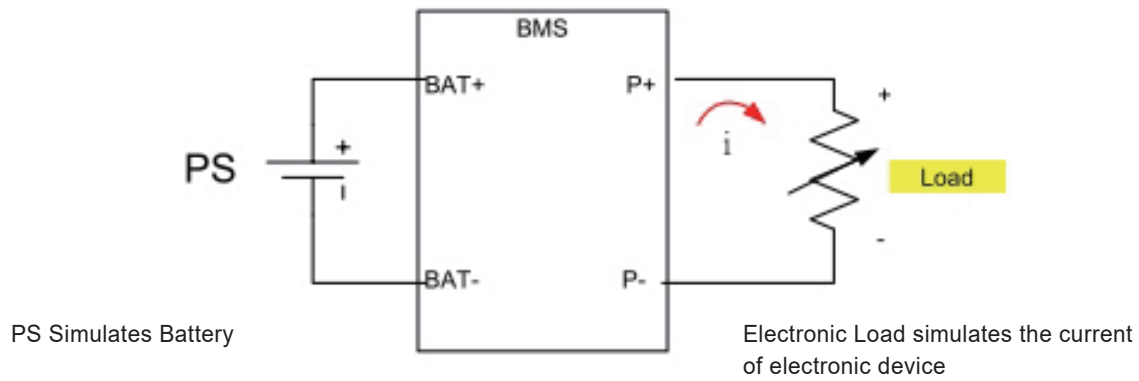

Figure 2 Equivalent Block Diagram for BMS discharge operation
2. The test method of SHORT protection (SHORT): Power Supply (PS) & LOAD connections shown in Figure 2, LOAD test procedure shown in Figure 3.